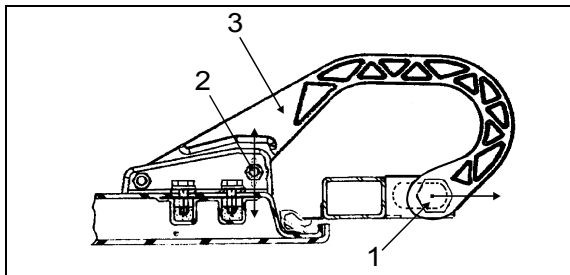

FIGURE 73: DOOR HINGE
2. Loosen nut (1, Fig. 73).
3. Move part (3, Fig. 73) as shown in figure for "LEFT or RIGHT" adjustment.
4. Tighten nut (1, Fig. 73).
5. Loosen nut (2, Fig. 73).